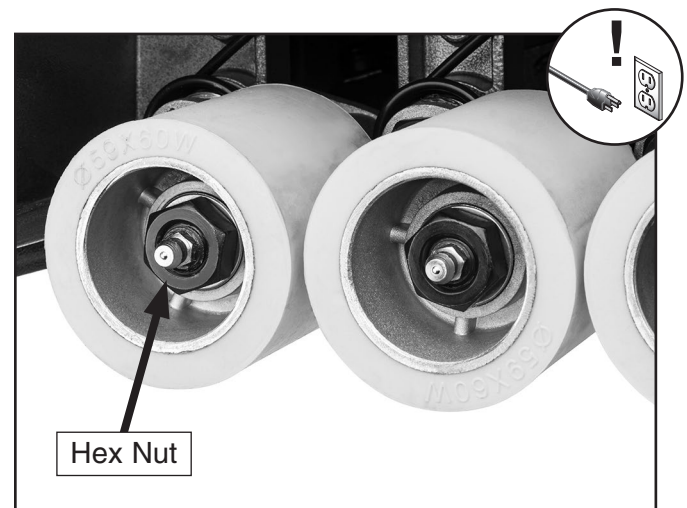

Figure 42. Roller hex nut location.
2. Remove hex nut and washer that secure roller (see **Figure 42**).